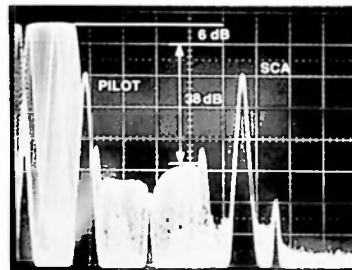
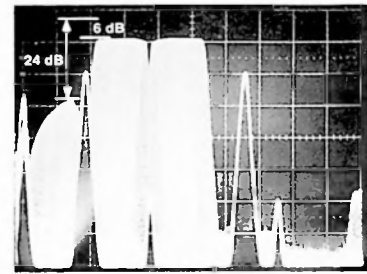

Fig. 35. Main-to-Sub-channel Crosstalk Test Shows Better than 38 dB of Isolation
Fig. 36. Sub- to Main-channel Crosstalk Measurement. Phase Problem Causes Erratic Response in Main Channel
- Slowly move the audio oscillator frequency from 50 Hz to 15 kHz and note the display. It should appear as in figure 35. The audio tone should appear in the main channel position from 0 to 15 Hz. Any signal noted in the 23 to 53 Hz region is crosstalk. Problems with phase differences vs. frequency across the audio spectrum will cause one or more random peaks and valleys as shown in figure 36.